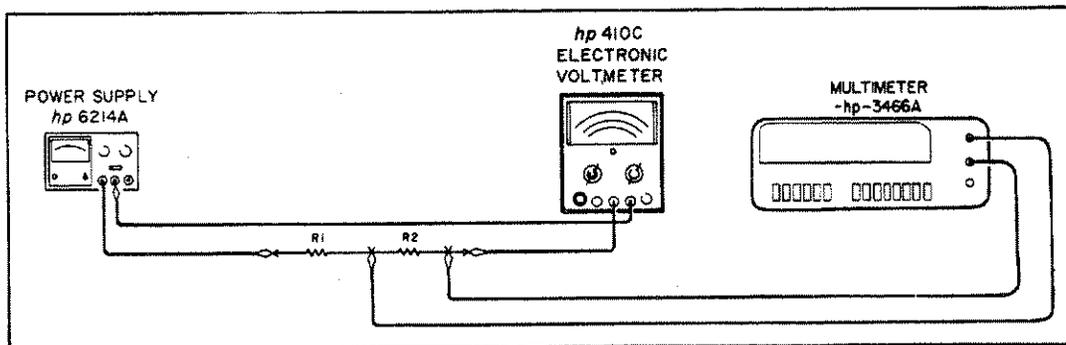

Figure 5-1. DC Ammeter Operation.
a. Figure 5-1 describes the test arrangement required for this operation.
b. Connect the Model 410C as shown in Figure 5-1; FUNCTION SELECTOR to +DCA; RANGE to 150 mA.